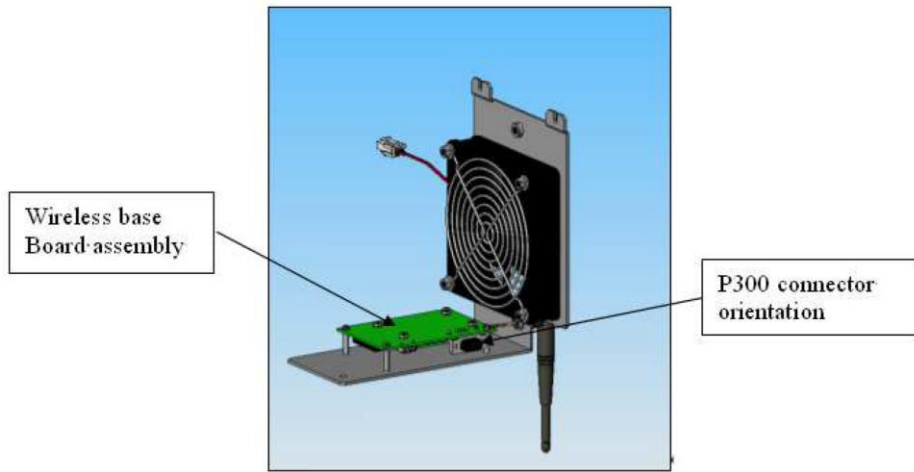

Figure 4: Base Board Assembly with Posts
- 8) Place the wireless board assembly on the four fan bracket standoffs. Note the correct orientation of the wireless base board P300 connector (Figure 4: Base Board Assembly with Posts).